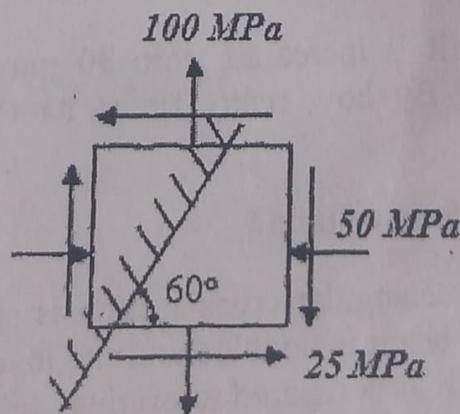

Fig.2
- The state of stress on an element is shown in Fig. 2. Determine: (a) Principal stresses and their orientations (b) Maximum/minimum shear stresses, their orientations along with the associated normal stresses (c) Values of normal and shear stresses on the indicated plane. Show all the results on properly oriented planes.